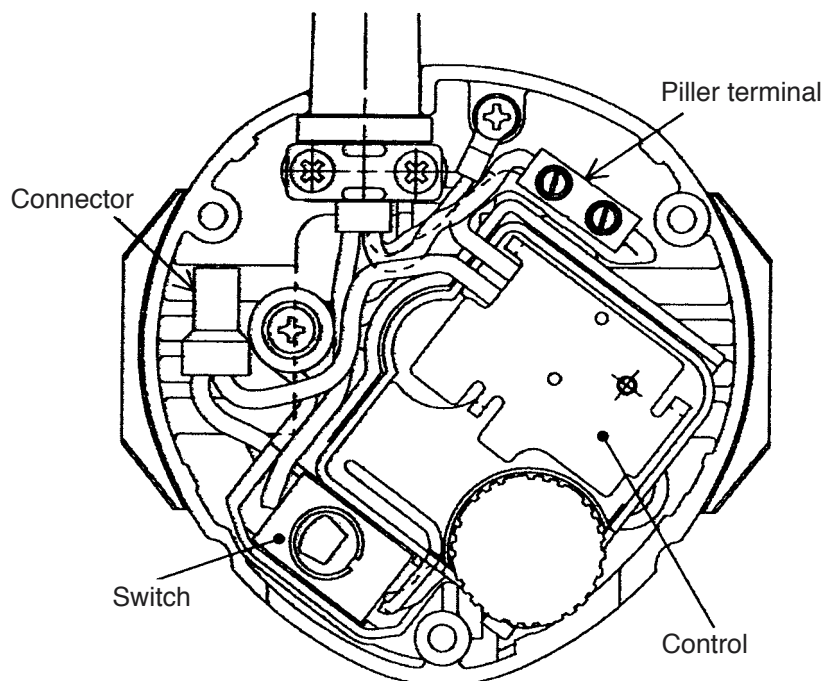

Fig. 14
### (2) Wiring procedure (Fig. 14)